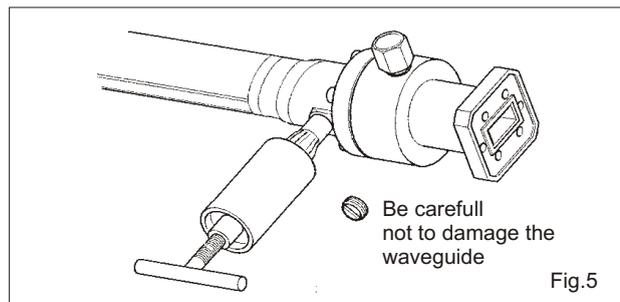

Fig.5
Montage der Armatur, Fig.5
Plast 2000 einspritzen, Fig. 5
Final Assembly, Fig.5:
Injection of Plast 2000, Fig.5:
For gas connection (17), Fig. 5